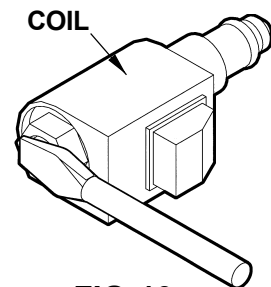

FIG. 10
3. Check if Solenoid Valve is getting power by holding a screwdriver against the top nut of the Solenoid. Push Control Switch to "**LOWER**" position to energize solenoid (**FIG. 10**). A good solenoid will attract (magnetically) the screwdriver to the nut and make it difficult to pull the screwdriver away from the nut.